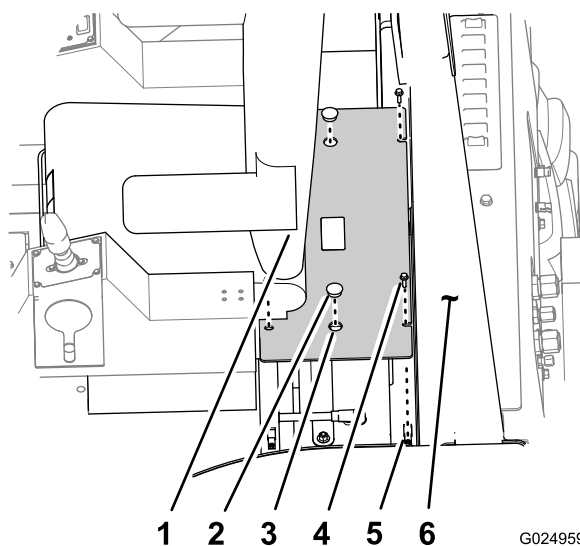

Figure 77
3. Remove the 4 bolts that secure the battery cover to the ROPS platform (Figure 77).
1. Align the holes in the mounting flanges for the battery cover with the plate nuts in the ROPS platform around the battery (Figure 77).
2. Secure the battery cover to the ROPS platform with the 4 bolts (Figure 77).